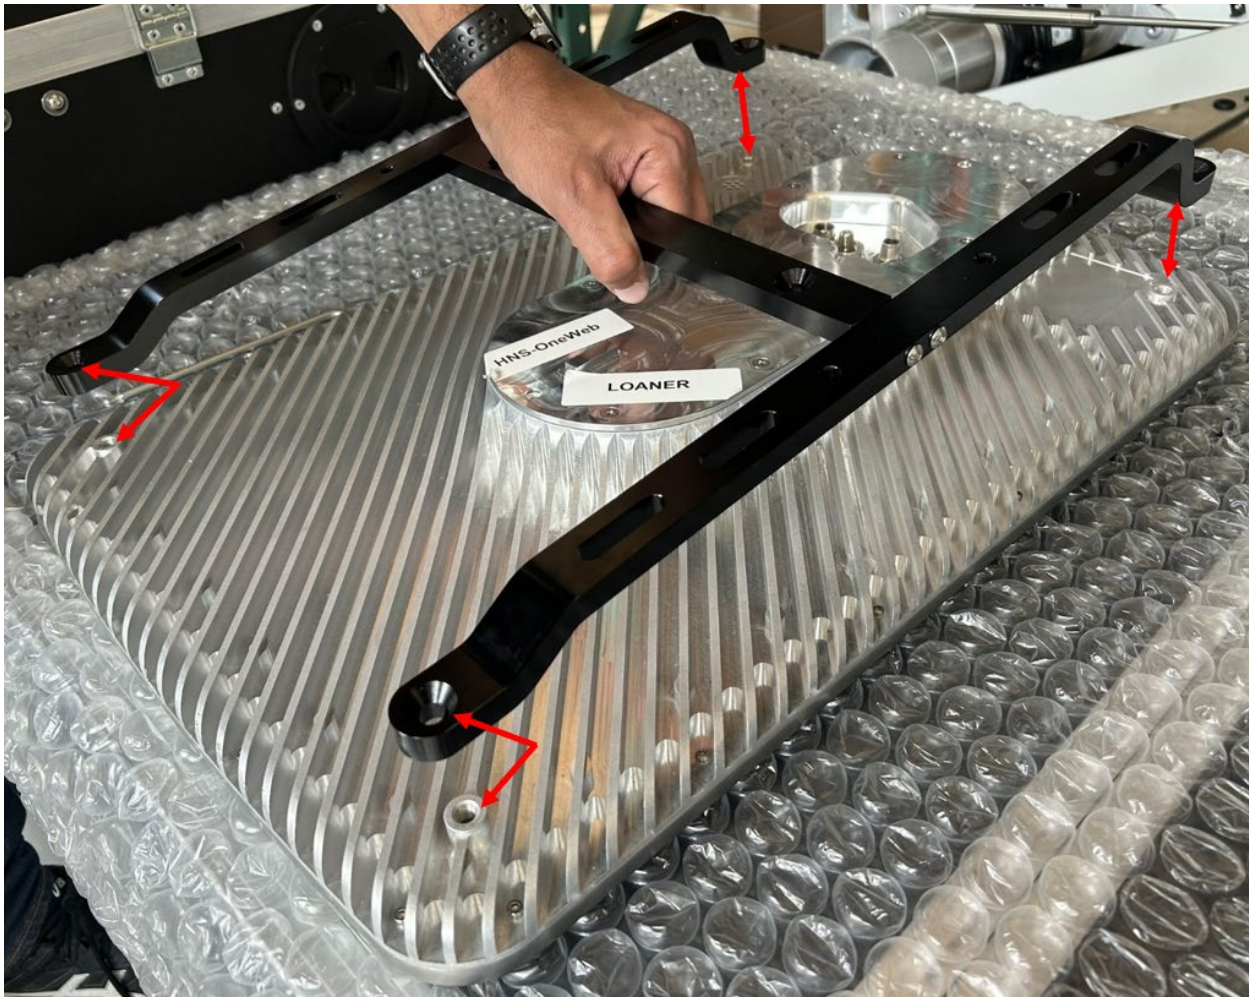

Figure 10: Aligning the mount
1. Align the mount with the back of the panel as shown in Figure 10 below.